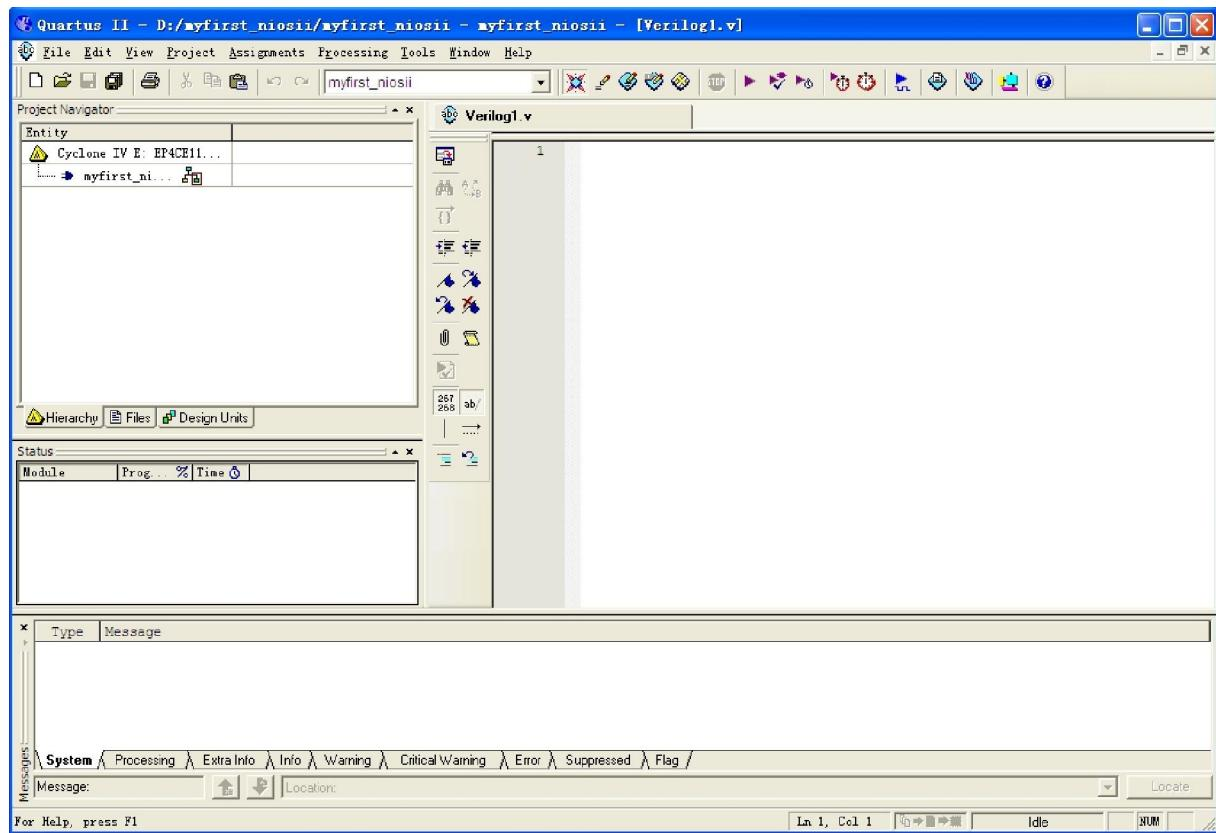

Figure 1-42 A blank verilog file
33. Choose **Verilog HDL File** and click **OK** to return to the window as shown in Figure 1-42.
Figure 1-42 show a blank verilog file.